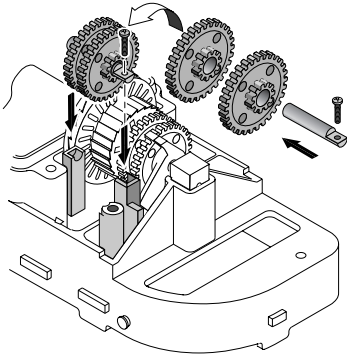

Figure 21
4. Reinstall the short gear shaft, set screw and two gears (See Figure 21); the small pinion gears and the shaft set screw go on the side toward the *end* of the cleaner – away from the oscillator box. Make sure that the gears engage the gears on the long gear shaft.